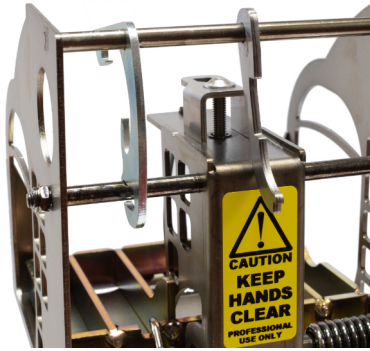

Figure 1
2. Move safety catch along bar until located halfway between the side of the trap and treadle upright (Figure 1). Ensure trigger catch is also pointing outside of the trap.